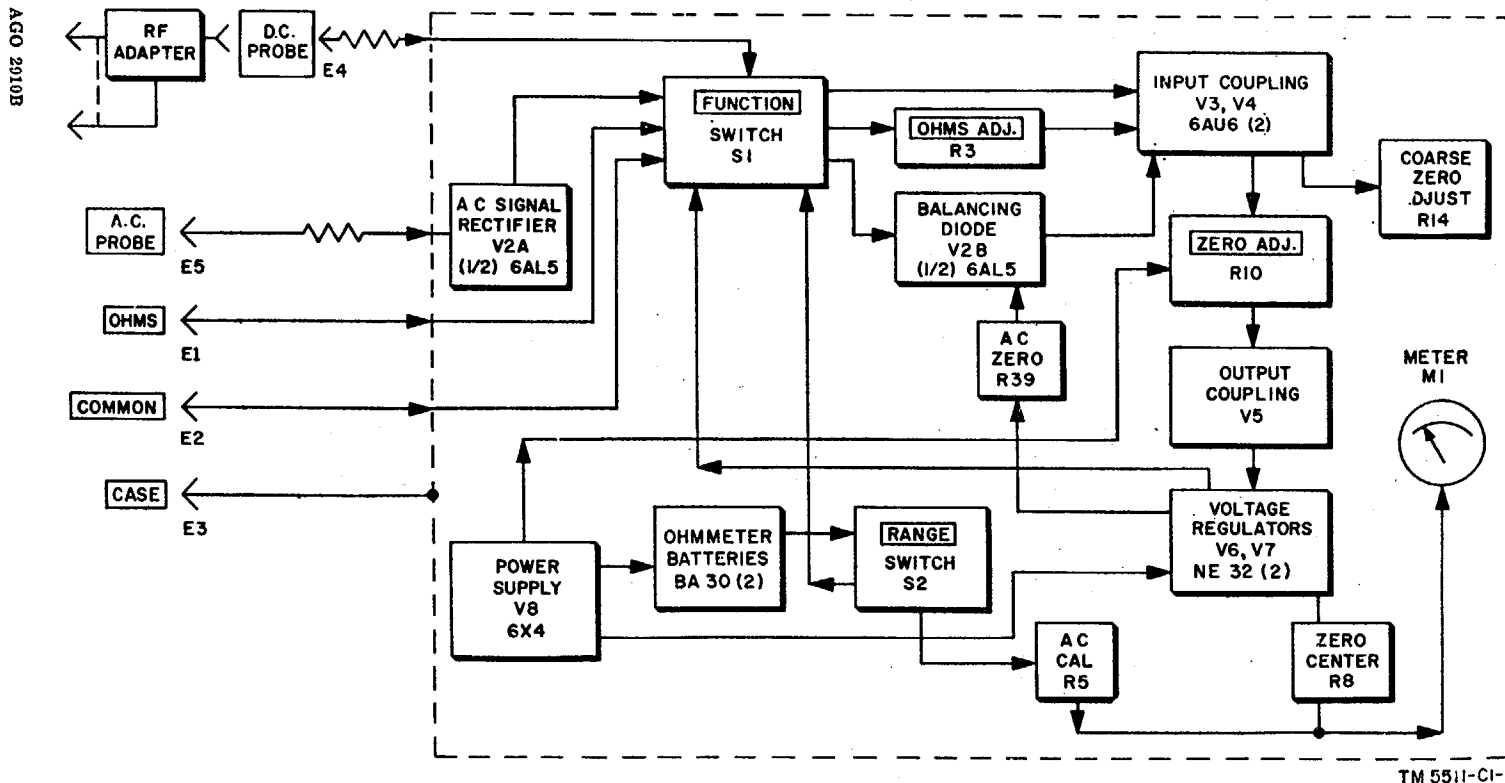

Figure 5. (Superseded) Electronic Multimeter TS-505/U, block diagram.
33. Block Diagram (Superseded) (fig. 5)